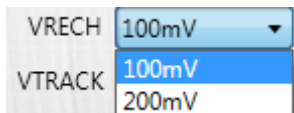

Figure 13: V_{RECH} Setting
11. Set the battery auto-recharge voltage to V_{BATT_REG} minus the value selected in the drop-down menu (see Figure 13). This voltage can be set to 100mV or 200mV, and the default value is 100mV.